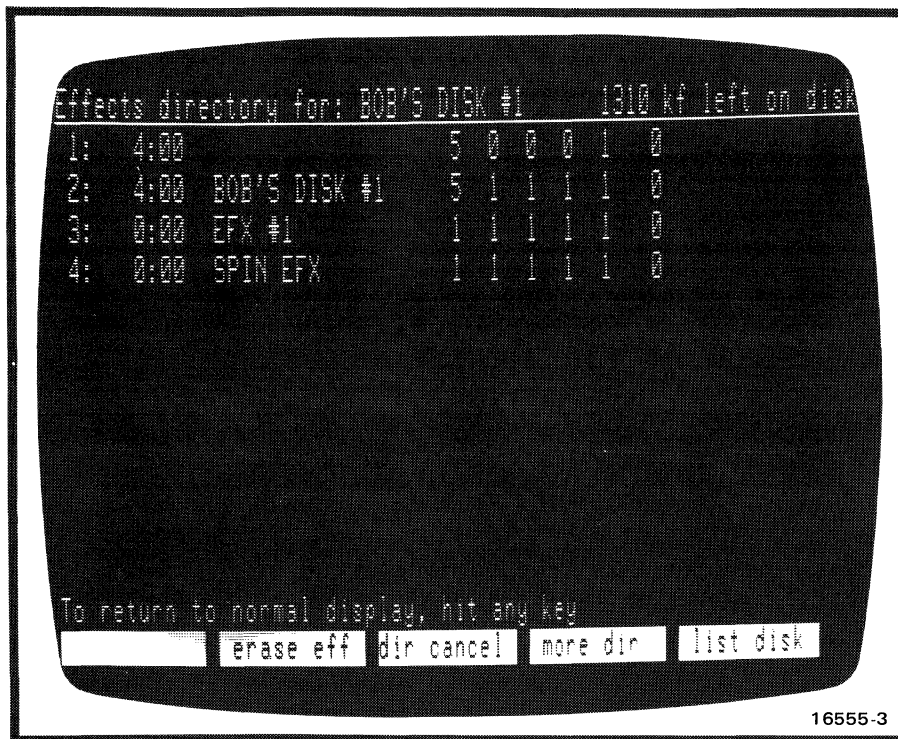

Figure 2-10. List Disk Menu
- **list disk** brings up directory of effects stored on a disk. See Figure 2-10. The directory shows effect number in the first column, effect length in the second column, and effect name, if any, in the third column. The next five columns list the number of keyframes stored in on-line memory for channels 1 through 4 and global. The column at far right lists keyframes using the ADO Concentrator.